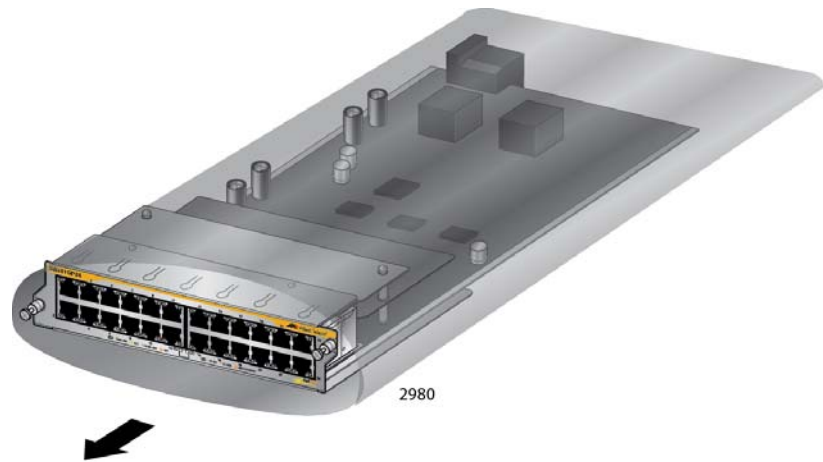

Figure 99. Removing the Ethernet Line Card from the Anti-static Bag
3. Carefully remove the Ethernet line card from the anti-static bag. Refer to Figure 99.